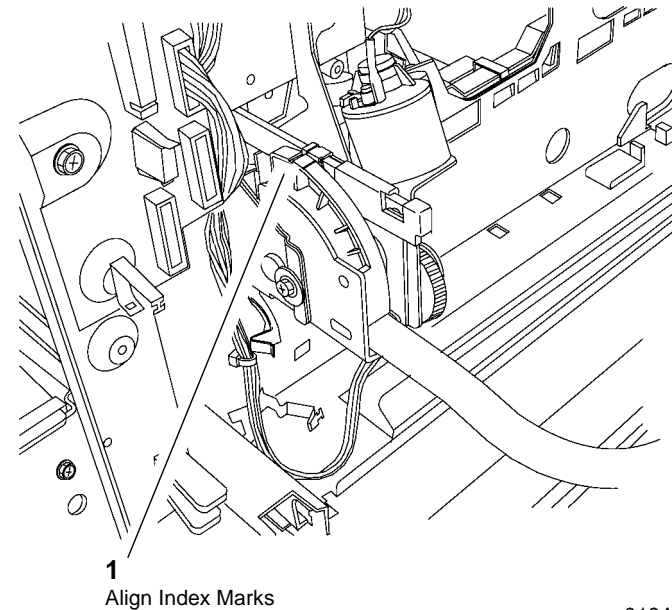

Figure 2 Index Marks
1. Make sure that the Right and Left Lift Assemblies are fully extended, and that the index marks on both ends of the Lever are aligned with the index marks on the Lift Assemblies (Figure 2).